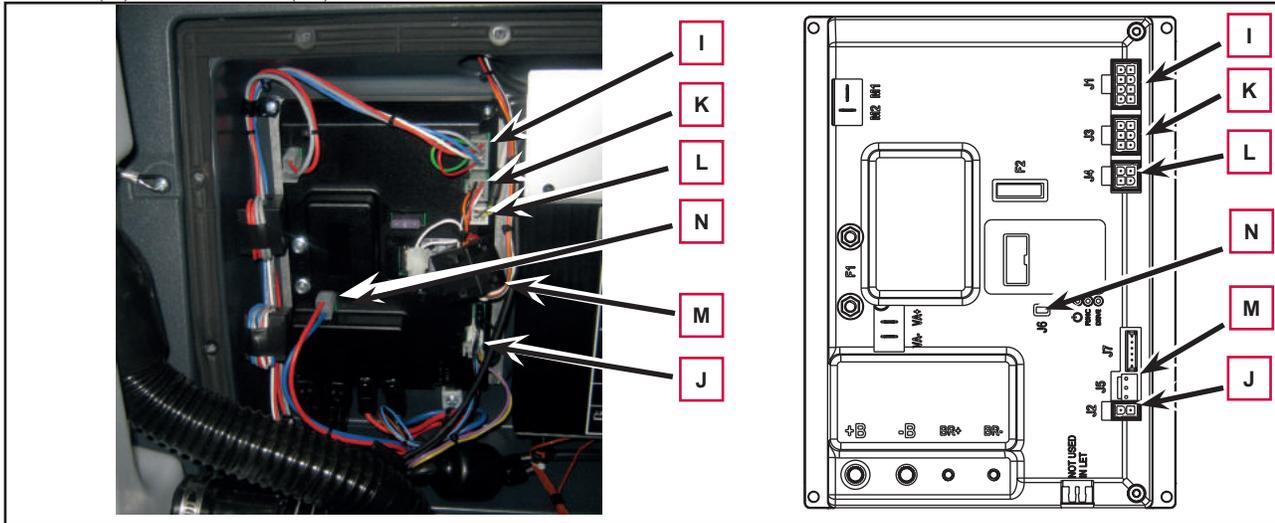

Figure 13
8. Disconnect the following connections sequentially (Figure 13):
- (I) Deck actuator and detergent pump connection (J1).
- (J) Solenoid valve connection (J2).
- (K) Display board connection (J3).
- (L) Battery charger connection (J4).
- (M) Detergent level sensor connection (J5).
- (N) Connection (J6).